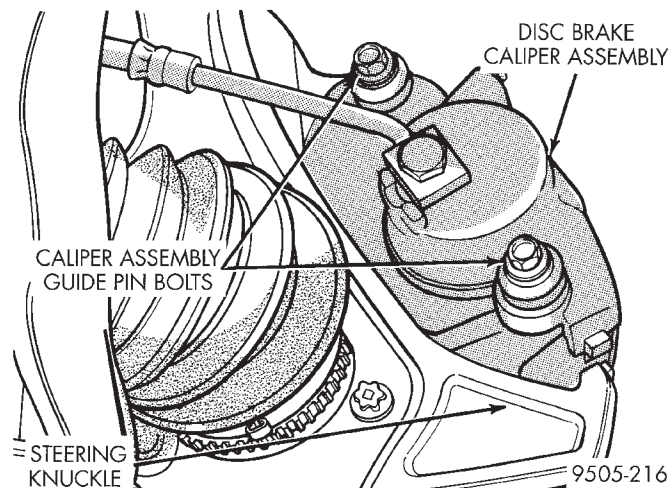

Fig. 60 Front Disc Brake Caliper Mounting
(4) Remove front tire and wheel assembly from the hub.
(5) Remove front disc brake caliper to steering knuckle guide pin attaching bolts (Fig. 60).
(11) Install disc brake caliper assembly to steering knuckle guide pin bolts (Fig. 60). Tighten caliper assembly guide pin bolts to a torque of 31 N·m (23 ft. lbs.).